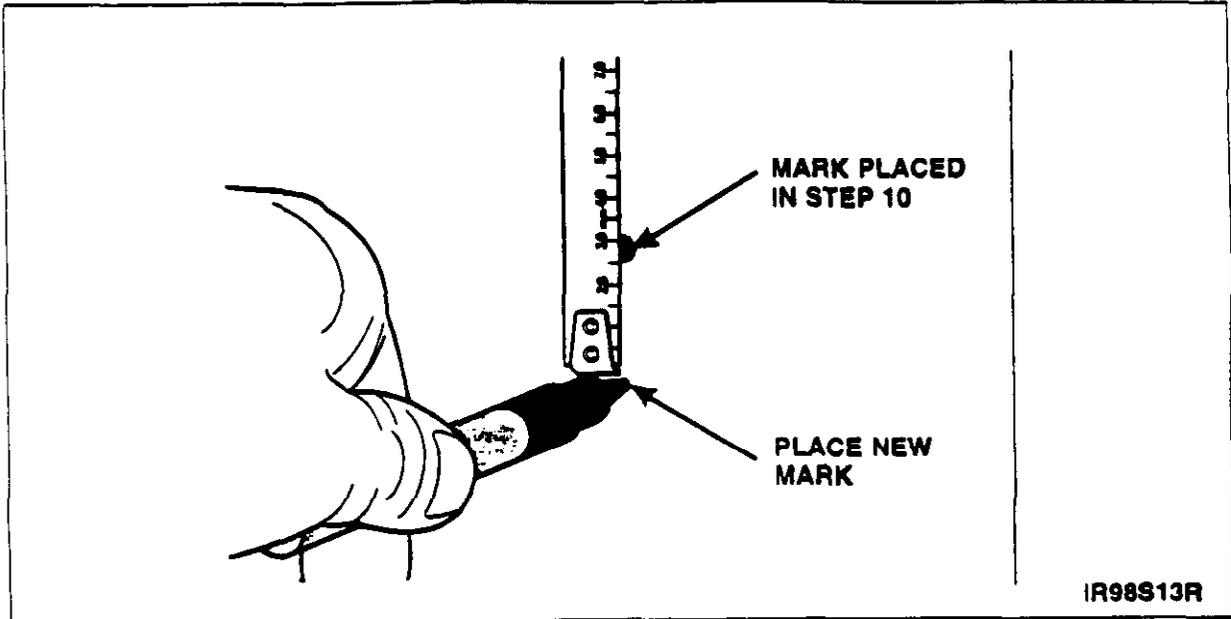

FIGURE 23
12. From marks placed previously, measure 29 mm toward front seat and place another mark. See Figure 23.